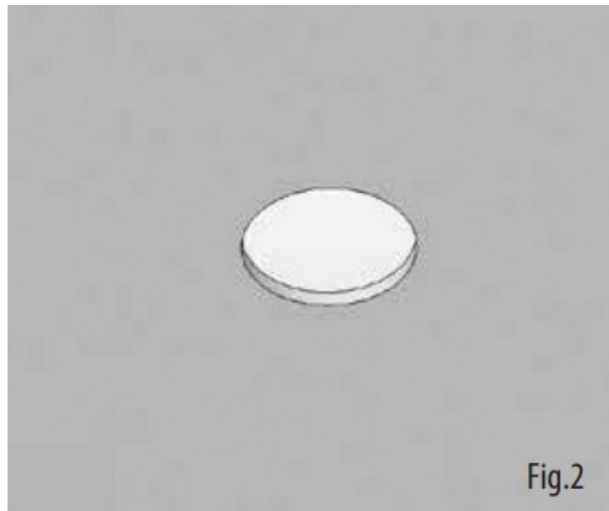

Fig.2
3. Cut out the hole in the ceiling using a pad saw. (Fig.2)